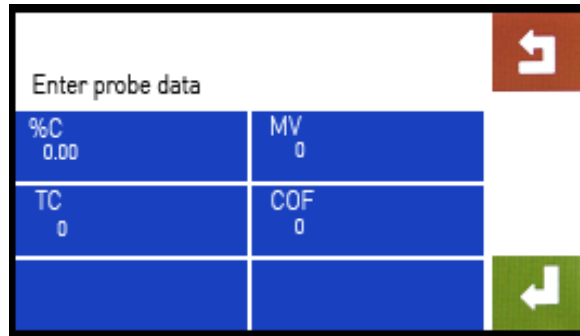

Figure 18 - Probe data entry
Attach one of two wire coil leads to the hole *on the right side* of one of the two binding posts, as shown in figures 18 and 19. Be sure to insert the coil lead until it touches the back of the post (note the contact points in Figure 18). Then tighten the post to secure the lead. Repeat this procedure for the second lead.
- Enter probe data** (Figure 18). Using this screen, probe data may be saved with the test data: % Carbon (“%C”), millivolts (“MV”), thermocouple number (“TC”), and CO Factor (“COF”). Pressing each button associated with a field will bring up a numeric keypad that will allow you to enter the appropriate value for that field. When finished entering values, press ↩ to continue.